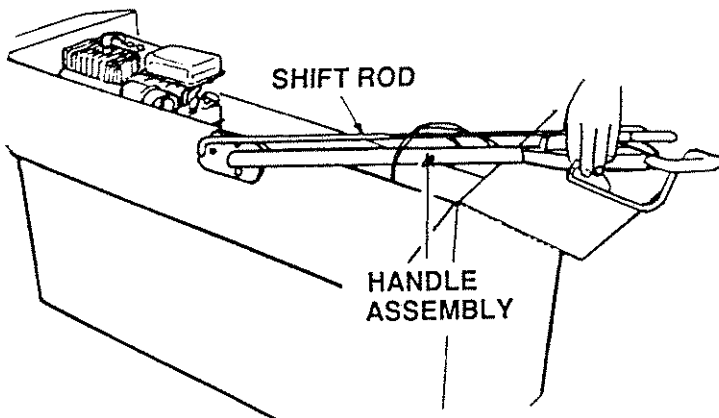

FIGURE 3
- d. Slowly ease Handle Assembly up and place on top of Carton. BE CAREFUL NOT TO STRETCH OR KINK CABLES (Fig. 3).